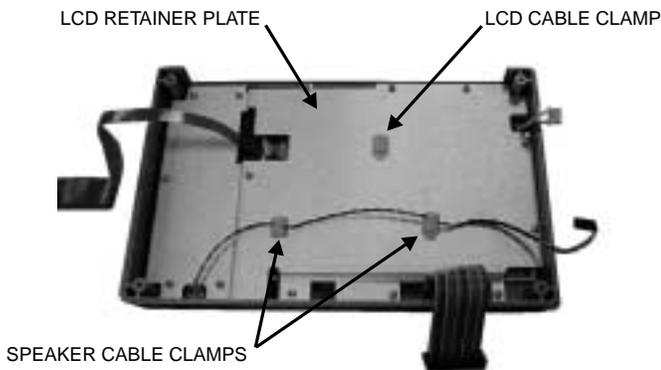

Figure 14. Front Panel Backing Plate
4. Release the LCD display cable and speaker cable from the retaining clips on the front panel backing plate (Figure 14).